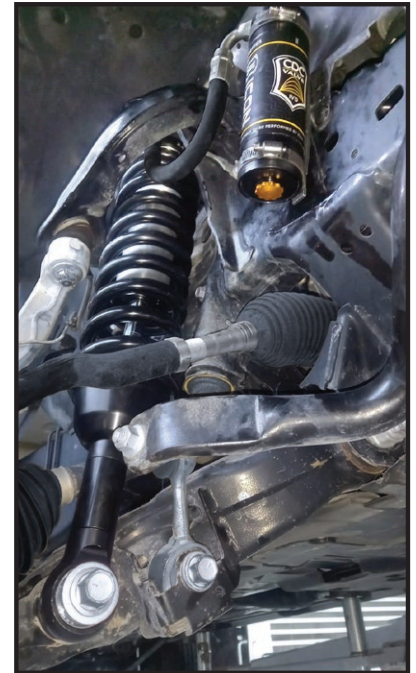

FIG.1
- Loosen and remove the (4) 14mm nuts from the top of the coilover mount. Do not loosen the large center nut.
- Route and install the reservoir as shown using the supplied 7.5" universal mount and 3/8 self threading screw. Use a 11/32 drill bit, then install the bracket and hardware. [FIGURE 1]